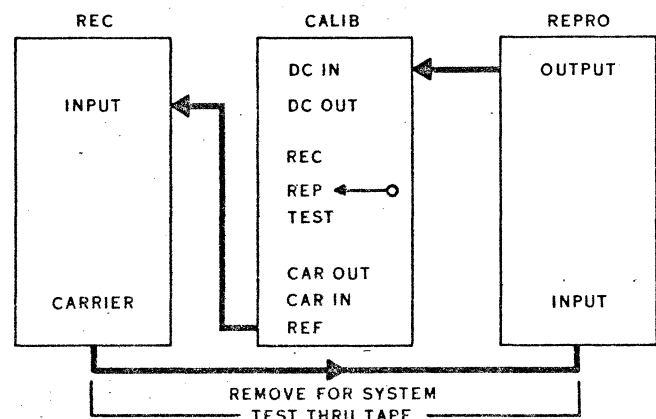

Figure 5. Record/Reproduce System Test Scheme
3. OVERALL FM RECORD/REPRODUCE CHECK - (refer to figure 5) - Proper tape threading and tape movement are required for this check via tape. With tape bypassed, ensure the squelch disable switch is set to ON. Bypass method not applicable when squelch is present without disable switch.